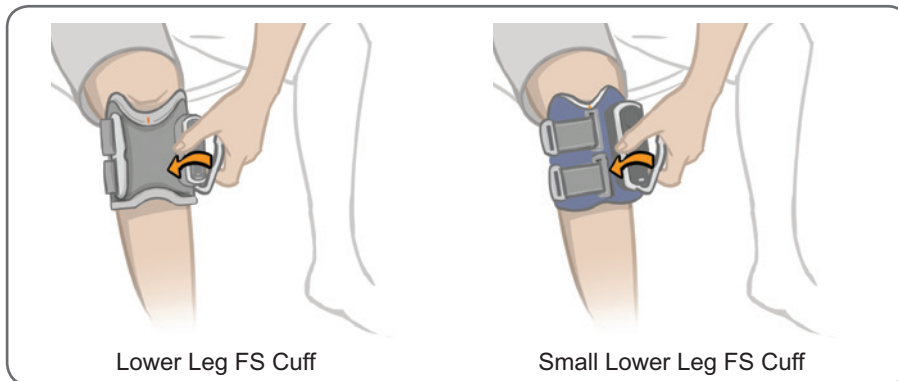

Figure 6-13: Fastening the Lower Leg FS Cuff Strap
4. Grasp the handle of the lower leg FS Cuff strap. See Figure 6-13. With your thumb on the FS Cuff cradle, fasten the strap handle around the cradle. If using the small lower leg FS Cuff, you may need to use your other hand to stabilize the cuff on the leg.